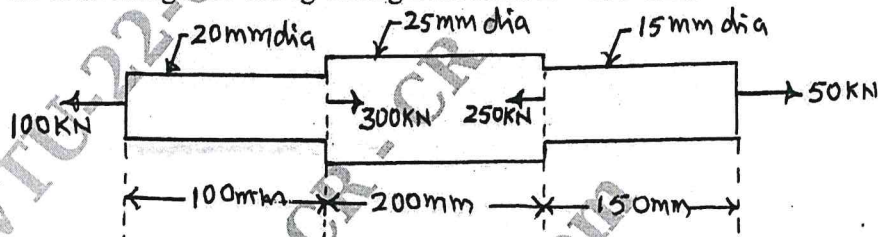

Fig.Q1(c)
- Determine the stresses in various segments of circular bar shown in the Fig.Q1(c). Also compute the total elongation taking Young's modulus  $E = 195 \text{ GPa}$ .